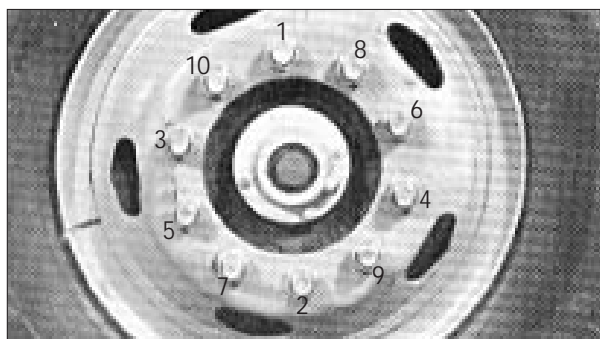

Figure 6 - Proper tightening and torquing sequence.
3. Draw up the nuts alternately in the sequence shown in Figure 6. DO NOT tighten them fully at this time. Stud and cap nut threads should be clean and dry; no oil should be used beyond the first three threads.
5. Tighten and torque the nuts fully, using the same alternating sequence as shown in Figure 6. Tighten them only to the recommended torque level as shown in the chart on pg. 12. Use a torque wrench to verify the proper torque, especially if an air wrench or bar wrench has been used to tighten the nuts.